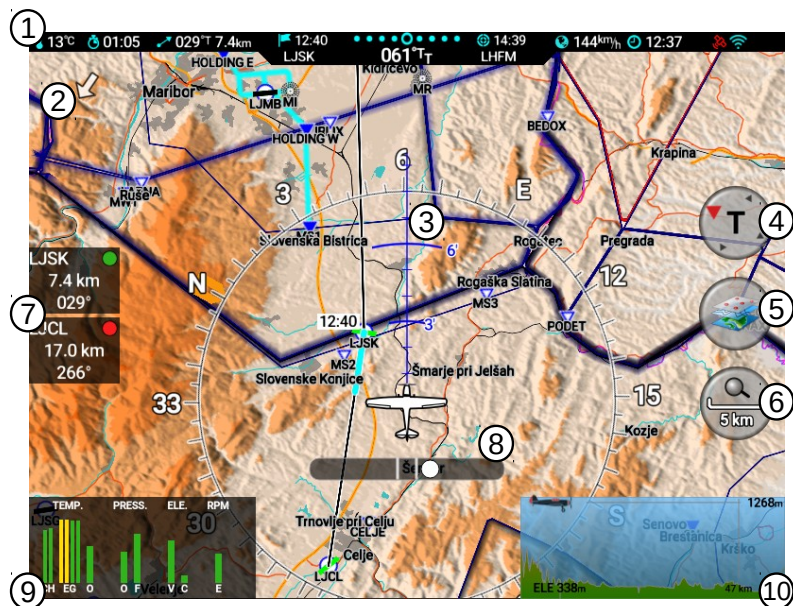
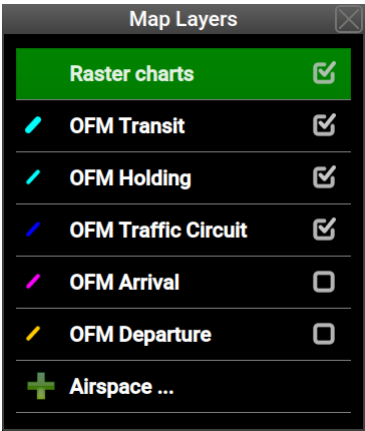

Figure 6: Illustration of the navigation screen.
Figure 9: The Map Layers window.
Figure 6 illustrates an example and defines the main elements of this screen.
Certain map layers can be enabled or disabled and some of them can be tuned. Touching the map layers button (Figure 6, option ⑤) opens a window shown in Figure 9.